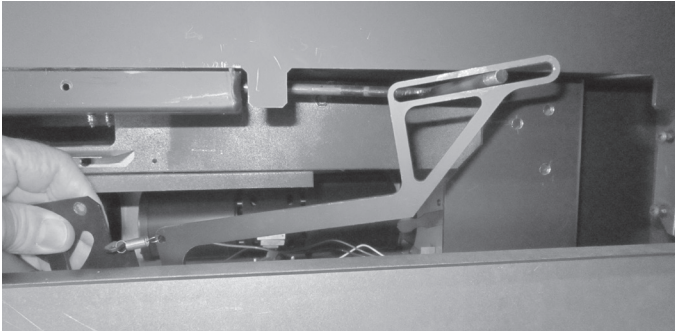

Figure 4.23 Inserting Timer Assembly
9. Install the timer/linkage by inserting the timer in first and slipping the linkage over the rod. See Figure 4.23.